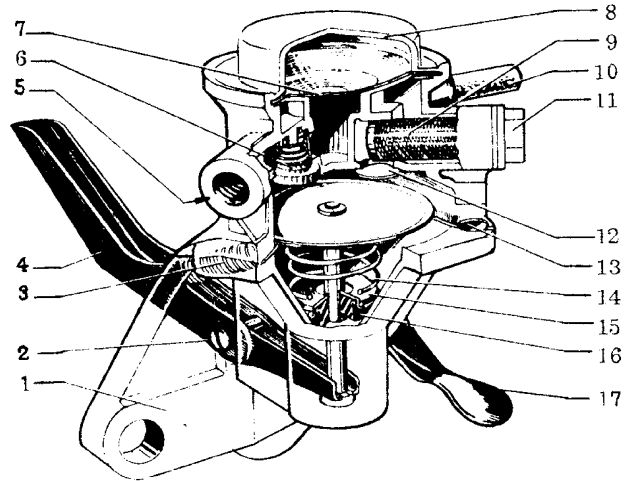

Fig. F11. Fuel pump
2. Screw off the lever shaft (2, Fig. F11). Pull out the lever (4) and the spring (3).
3. Remove the diaphragm (13) with spring (14), guide (15) and rubber seal (16). The spring can be removed after the rubber seal has been prised over the nylon washer.
4. Slacken the screw underneath the upper section, remove the stop arm and spring (12). The outlet valve cannot be removed.